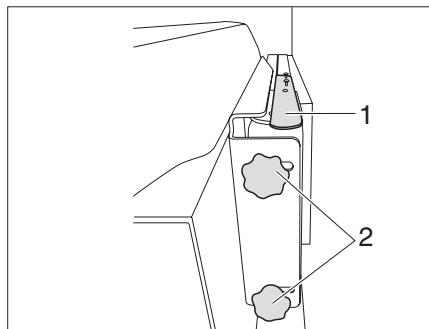

Fig. 83 Bracket with jointed arm (Variant 1)
- Press the lever (Fig. 83,1) down to release the flat screen from the lock. Release the lever.
- Undo the 2 knurled screws (Fig. 83,2) and swivel the flat screen into the desired position. Retighten the knurled screws (Fig. 83,2).